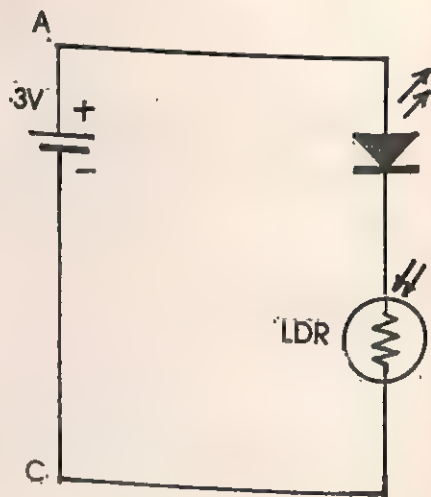

Fig. 14.2
1. Connect the circuit as shown in Fig. 14.2.